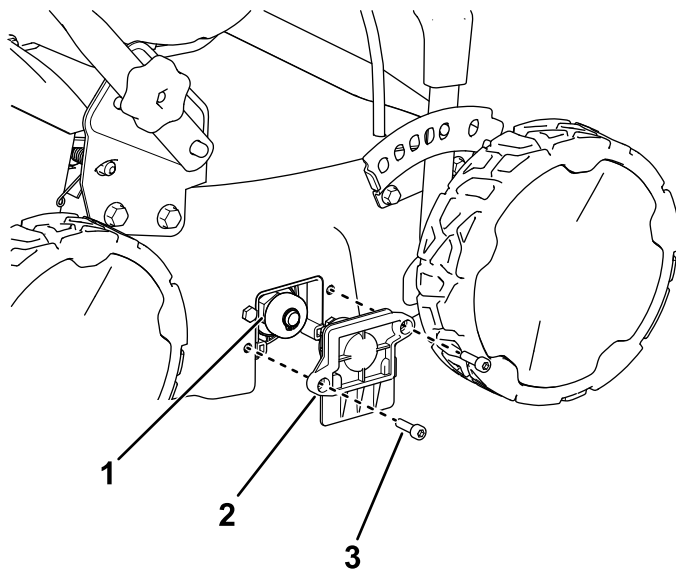

Figure 19
3. Using the hex wrench, remove the 2 screws securing the bearing housing and the reel shaft from the right side of the machine (Figure 19).
5. Install the bearing housing so that it secures the newly installed shaft assembly using the 2 hex-head screws removed in step 3 and store the hex wrench in the transport lever assembly (Figure 19).